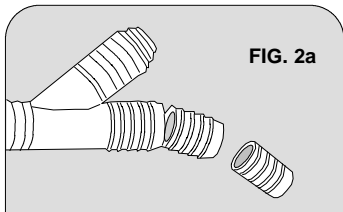

FIG. 2a
3. Universal barbs on the ET116-001 will accommodate the various dishwasher hoses encountered. Determine which size is required by sliding open end of the hose over stepped barbs until one fits snugly. If the hose fits snugly over the middle or largest barb, you must cut away the smaller barb(s) with a hacksaw. Use the grooved “cut lines” provided, then smooth away any burrs. (See Fig. 2a)